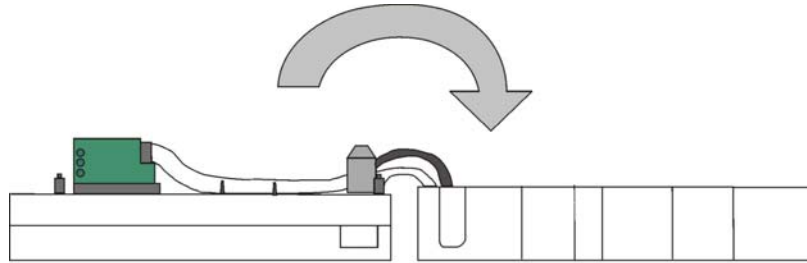
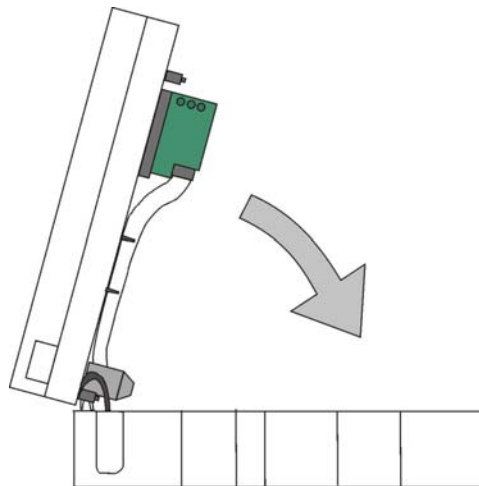

Figure 21: Coin Box Assembly 2
Figure 22: Coin Box Assembly 3
6. Lift the 'Centre Plate' to meet the 'Coin Box'. Figure 21 & Figure 22.